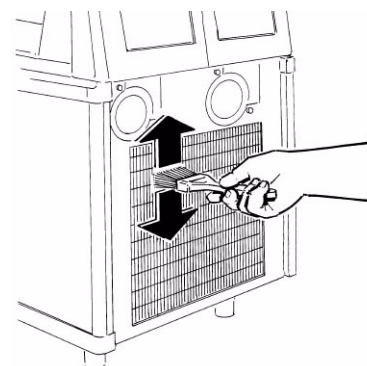

FIGURE 24
2. Remove the back panel and filter. Remove the dust that has accumulated between the fins of the condenser using a dry brush or vacuum (see Figure 24).